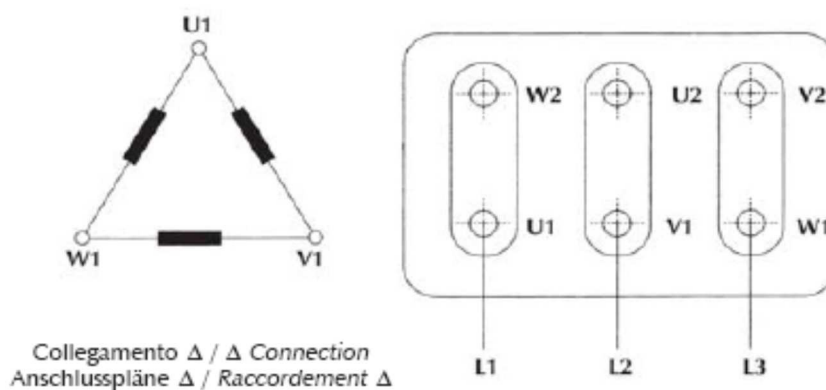
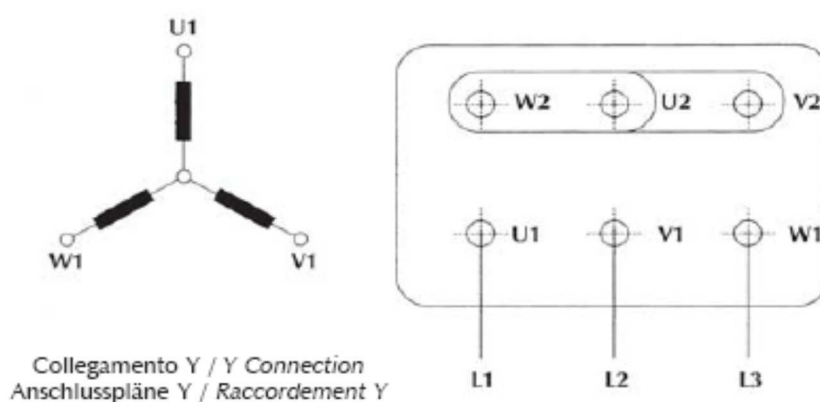
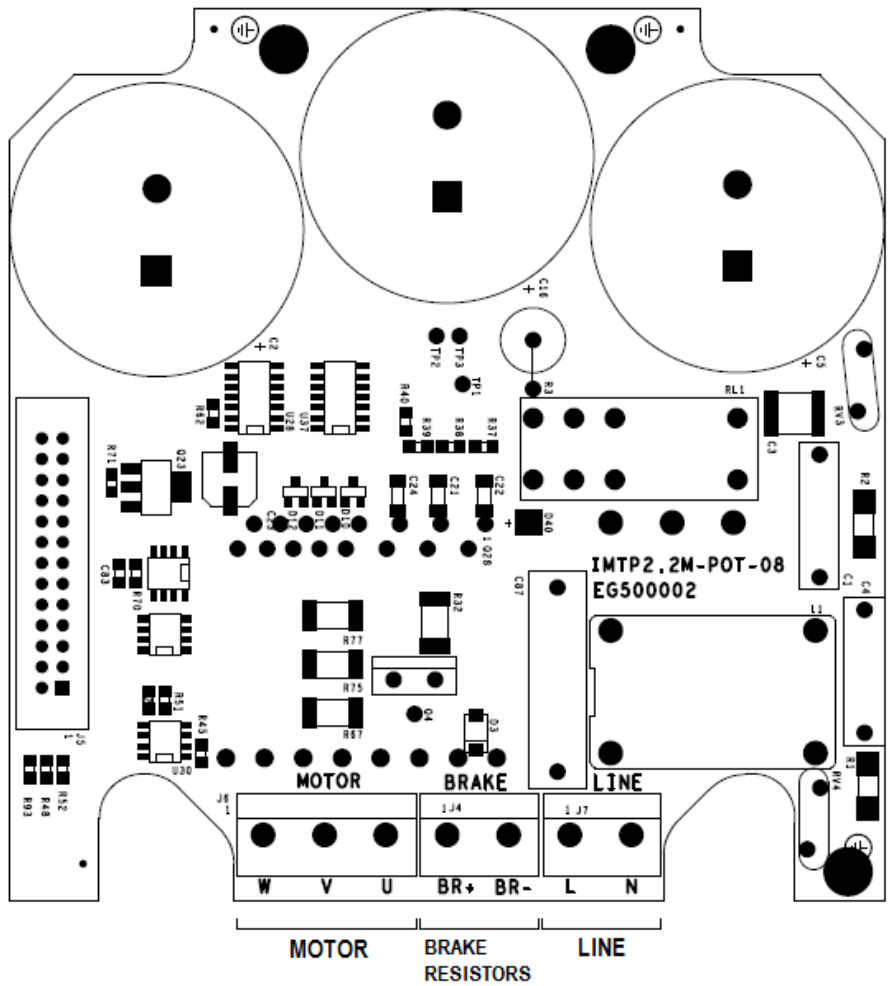
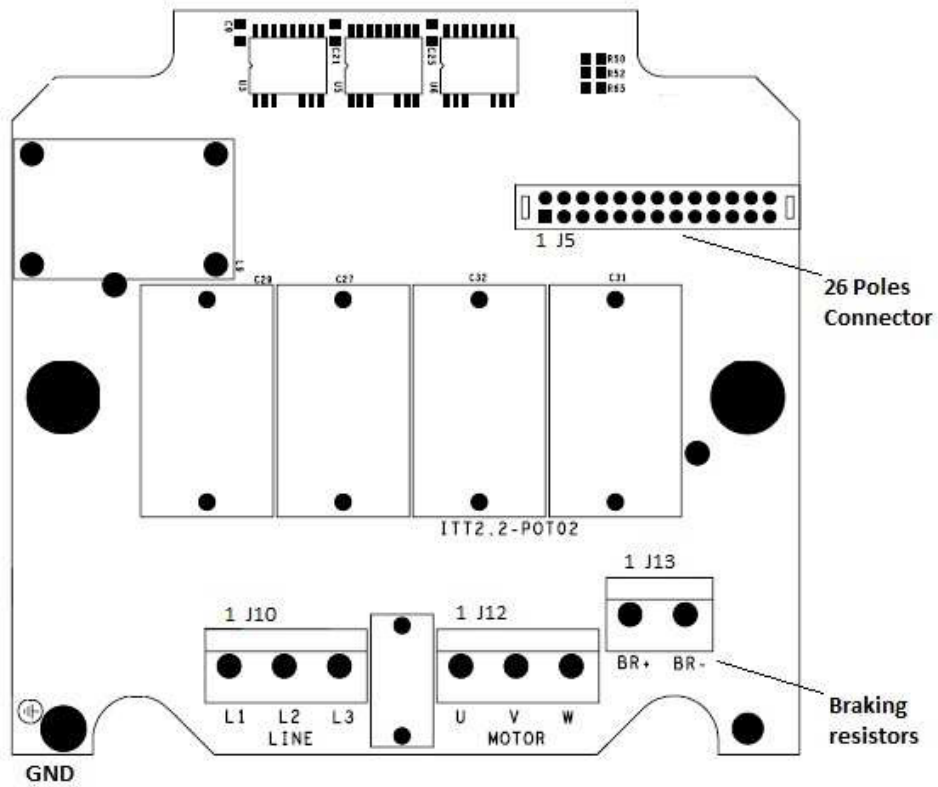

Figure 10 – Delta motor phases connection
Figure 11 – Star motor phases connection
Figure 13: Power board of IMTP(D) 2.2
Figure 14: Power board of ITTP(D) 2.2
The single-phase inverter **IMTP(D)2.2** must be installed on asynchronous three-phase motor with 100-240Vac 50/60 Hz voltage supply. Phases must be configured to delta mode if the motor is 230V Δ / 400V λ (most common case, as in Figure 10). Connect the N°3 motor terminals to the U, V, W inverter output connectors (fig. 13).
The three-phase inverters **ITTP(D)2.2** and **ITTP(D) 4.0/5.5/7.5** must be installed on asynchronous three-phase motor with 200-460 Vac 50/60 Hz voltage supply. The phases must be connected in star mode if the motor is 230V Δ / 400 V λ (most common case, as in Fig 11). Connect the N°3 motor terminals to the U, V, W inverter output connectors (fig. 14,16).
- For the motor mounting version (M), fix the bottom of the inverter box to terminal motor case with the 4 screws; For the wall mounting version (W), fix the inverter to the wall with the N°4 special fixing;
- Connect the two line wires on L, N, for single-phase Inverter IMTP(D)2.2 and the ground cable with ring terminal on the GND screw (fig. 13), or the three line wires and ground on L1, L2, L3, GND for ITTP(D)2.2/./7.5 (use the up-level connector extension for ITTP(D)4.0/./7.5W) fig. 14, 16;